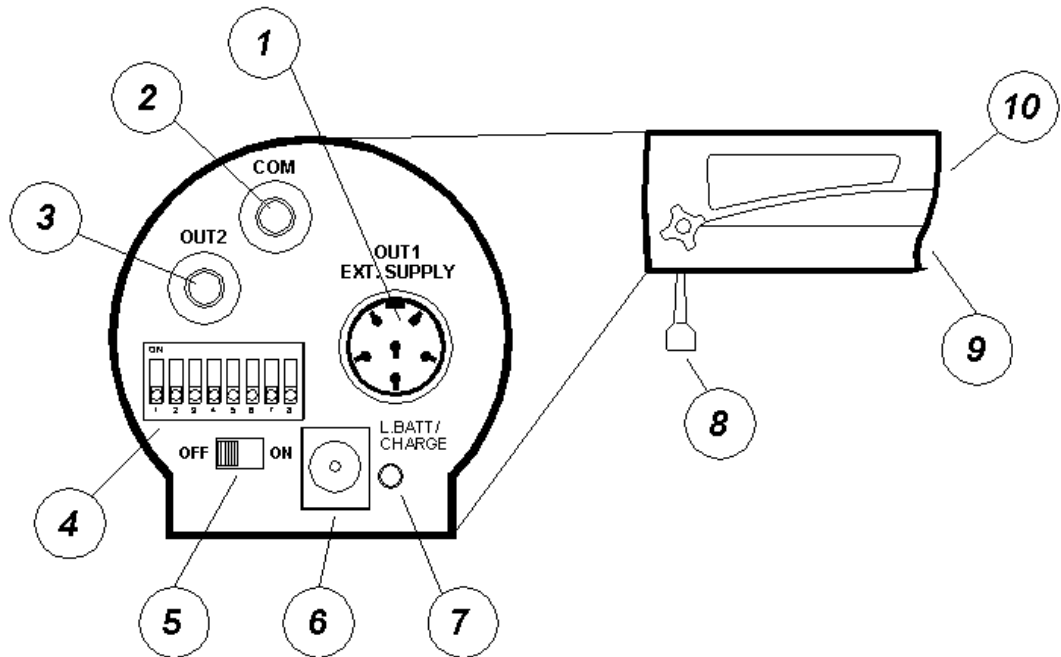

Figure 1
- recharge power source: power applied to recharge jack (see fig 1 n° 6). Voltage must be between 8V and 13V (we strongly advise you not to use voltages above 13V; for higher voltages a security mechanism - varistor – breaks the supply circuit. The circuit is restored when voltage has returned within the operative range).
- external power source: power supplied to the photocell by means of the 6 pole Amphenol socket (fig 1 n° 1). Voltage must be between 5V and 13V. Also in this case there is a safety mechanism like the one for the recharge power source.